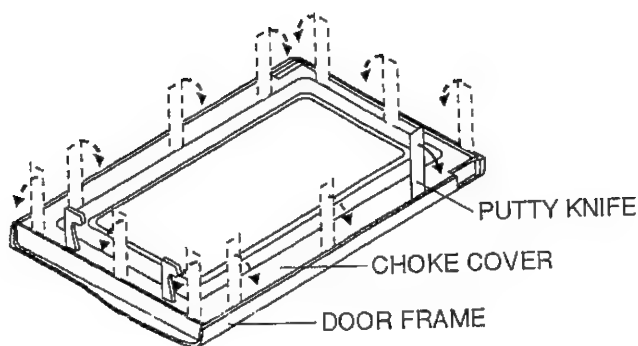

Figure C-5. Door Disassembly
in Figure C-5 to free engaging parts.
4. Try the principles of the lever and lift up the choke cover by inserting a putty knife as shown in Figure C-5.